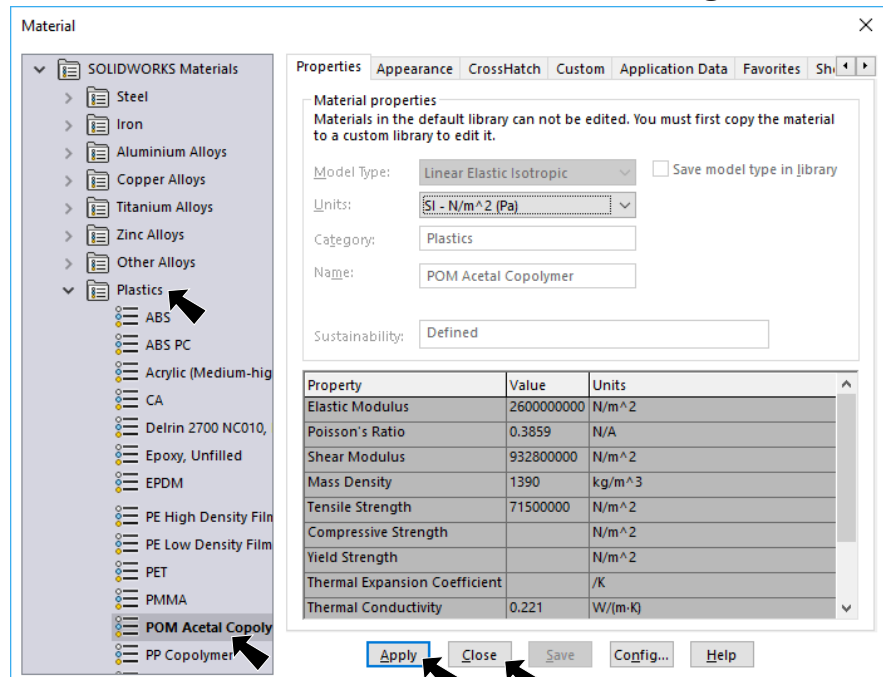

Fig. 23
- Step 2. Expand **Plastics** in the material tree and select **POM Acetal Copolymer**, Fig. 23. Click **Apply** and **Close**.